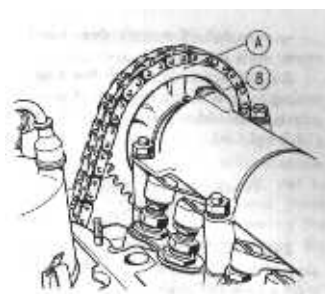

Fig 32. Setting No. 4 Cylinder piston in TDC
- Rotate the crankshaft clockwise to align mark A (Fig. 32) on the sprocket with mark B on the camshaft housing; in this case the piston of the No. 4 cylinder will be on TDC at the end of the compression stroke, and both valves will be closed